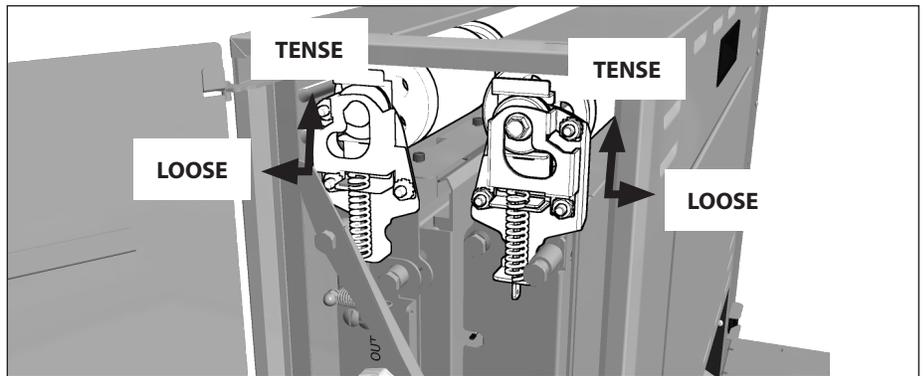

Figure 3. Conveyor Rollers
6. Push down on the front and rear belt rollers and move them away from the center of the toaster. Use both hands. This removes tension and locks the rollers in place. See Figure 3.